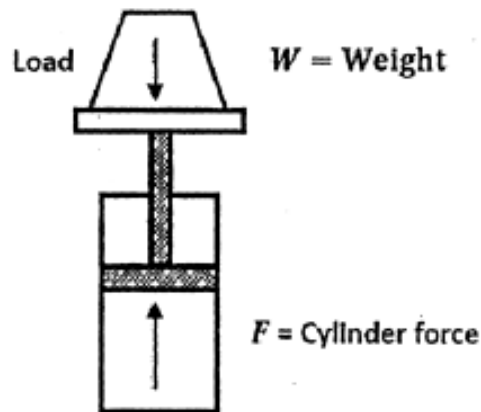

Figure 6b
6. A 5000 N weight is to be lifted upward in a vertical direction for the system shown in Figure 6b. Find the cylinder force required to